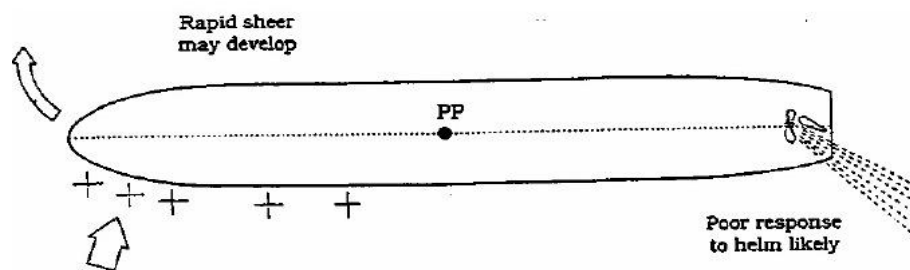

Figure 6-5 The effect of squat (helm response)
- In addition to the possibility of grounding forward there also exists the possibility of losing control and sheering violently out of a channel. If the helmsman allows a small swing to develop, longitudinal resistance ahead of the ship will be brought round onto the exposed bow, (as in figure 6-5) which in turn will encourage a violent swing in the same direction as the helm. Counter helm to correct the swing may be sluggish because as we have seen, the steering lever is reduced. Once the ship does respond, it may now sheer violently the other way. A chain reaction then sets in, with the ship sheering badly from one side to the other and failing to respond correctly to the helm. The effect can be extremely rapid, with the ship out of the channel and aground in just a few minutes. Excessive speed is the main contributing factor under such circumstance; reduced speeds are essential to avoid such violent forces building up.